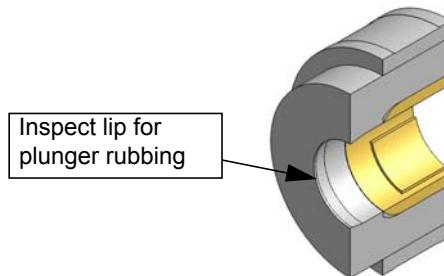

Figure 6-15
- Using magnification, examine the edges and interior of the metal lip in the bore of the **backup ring** (Figure 6-15) adjacent to where the **dynamic seal** was positioned, especially if uneven or excessive extrusion of the dynamic seal was observed. The exterior edge of the short lip should be sharp and square with no nicks or gouges. There should be no evidence of rubbing on the lip.